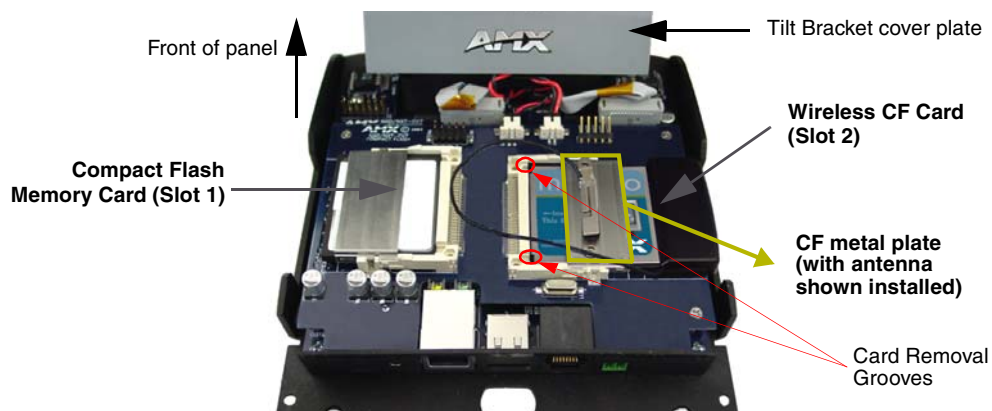

FIG. 21 Location and orientation of the card slots (both CV7/CV10 panels)
1. Discharge any static electricity from your body by touching a grounded metal object and then locate the wireless card slot on the main board (FIG. 21).
2. Insert the tip of a grounded flat-head screwdriver into one of the card removal grooves (located on either side of the existing card), and gently pry the card out of the slot (FIG. 21). Repeat this process on the opposite card removal groove. *This alternating action causes the card to "wiggle" away from the on-board connector pins.*
4. Remove one of the included alcohol pads and use it to thoroughly clean both the CF metal cover (FIG. 21) and the metal plate on the underside of the terminal antenna. These surfaces must be properly cleaned to provide good adhesion for the later installation of the wireless antenna.